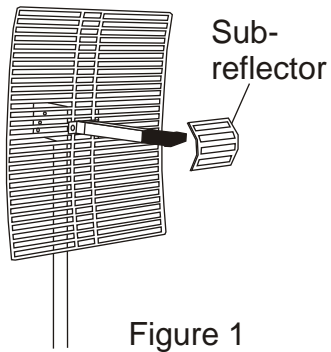

Figure 1
- Place the sub-reflector on the front of the feed and secure with the #6 x 1/2" stainless screw. (Fig. 1)